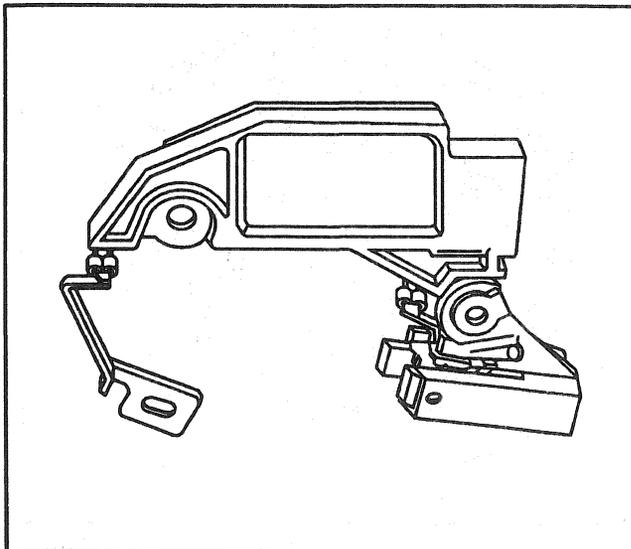

Figure 10—Regulator Connections
12. If the regulator, brush assembly, or connector needs replacing, it will have to be unsoldered from the other two components. Use as little heat as possible to protect the regulator (Figure 10).
- If the brush holder, regulator, or connector has been replaced, connect it by crimping the connectors to the other components. Solder the connection using as little heat as possible to avoid heat damage to the regulator (Figure 10).